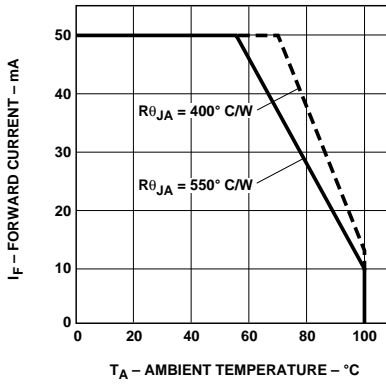

Figure 5. Maximum Forward DC Current vs. Ambient Temperature. Derating Based on $T_{JMAX} = 110\text{ }^{\circ}\text{C}$.
3. Derate linearly as shown in Figure 5.